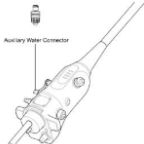

Figure 2
- If using the 4-piece or 5-piece valve kit (Figure 4 or Figure 5), attach the auxiliary water jet connector to the auxiliary water port by screwing it onto the port (See Figure 2). When attaching the auxiliary water jet connector to the port, take care to ensure that the auxiliary water jet connector is aligned to the port and avoid excessive tightening. Misalignment or excessive tightening of the auxiliary water jet connector could lead to the possibility of leakage.